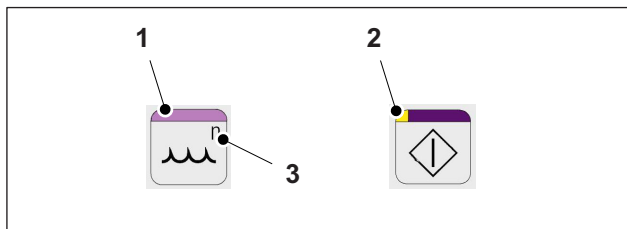

Fig. 5 Identification of the buttons
- Color bars on the buttons (Fig. 5/1),
- Light-emitting diode (LED, Fig. 5/2),
- Buttons labeled "n" (Fig. 5/3): input required using the \neq or - buttons.